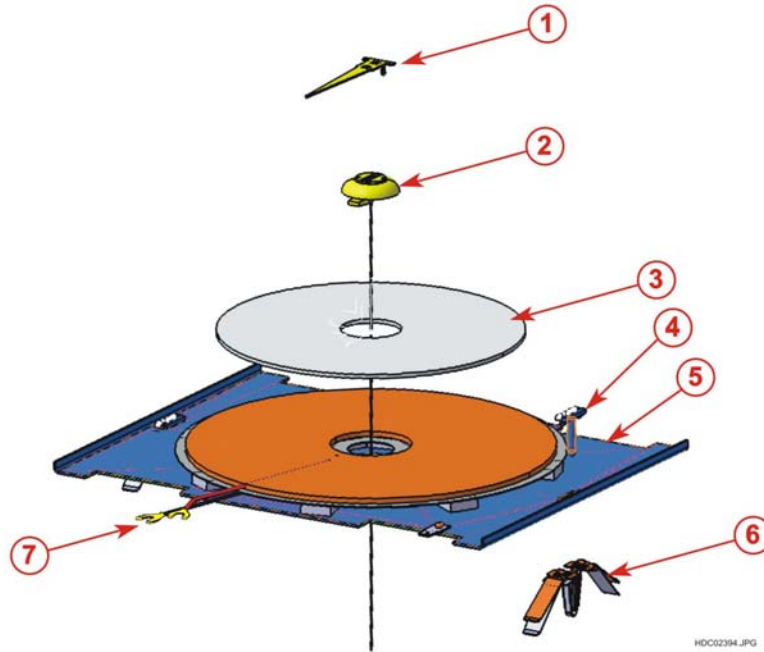

Fig. 24
The induction coils are inserted into an assembly which includes a support element (pos. 5 Fig.24). A suspension spring is fitted beneath the coil assembly so that the coil is pressed upwards against the glass ceramic hob underside (pos. 6 Fig. 24). It is necessary to place a layer of heat insulating material (pos. 3 Fig. 24) above the coil, and then the NTC heat sensor and the aluminium locking tab (pos. 2 and 1 Fig. 24).